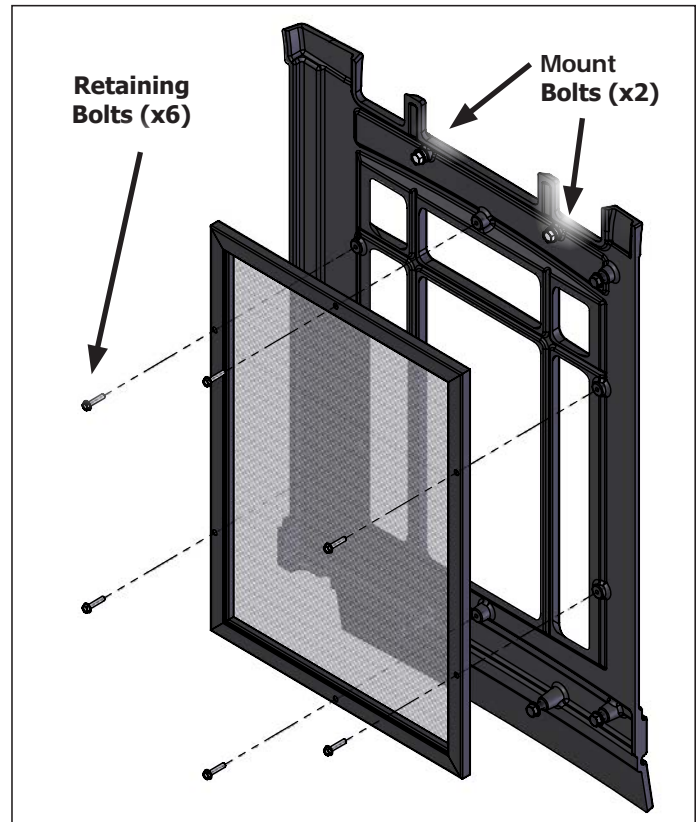

Figure 56. Safety Screen Removal - Side
**Step 6:** Remove the six (6) retaining bolts (Figure 56) using a 1/4" socket and remove the damaged screen while noting the orientation. Install the new screen (50-3716) by simply re-installing the retaining bolts.
**Step 7:** Re-install the cast side and tighten the two (2) top mount bolts. Re-install the cast door and top to finish.